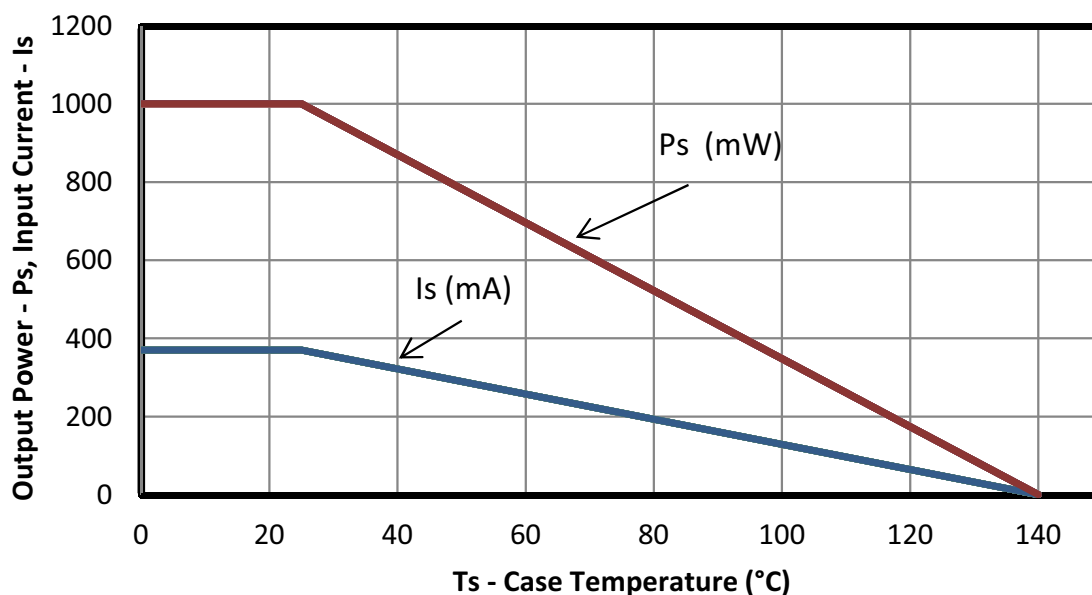

Figure 5. (SOIC-8) Thermal Derating Curve, Dependence of Safety Limiting Values with Case Temperature per DIN EN 60747-5-2 and VDE0884-10
***Note:** Maximum value allowed in the event of a failure; also see the thermal derating curve in Figures 5, 6, 7, and 8.